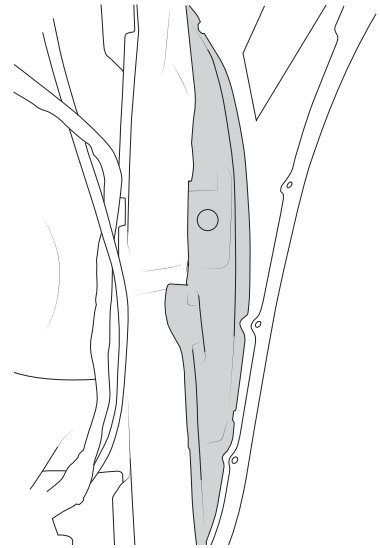

Figure 2
2. Remove foam inserts (fig. 2).